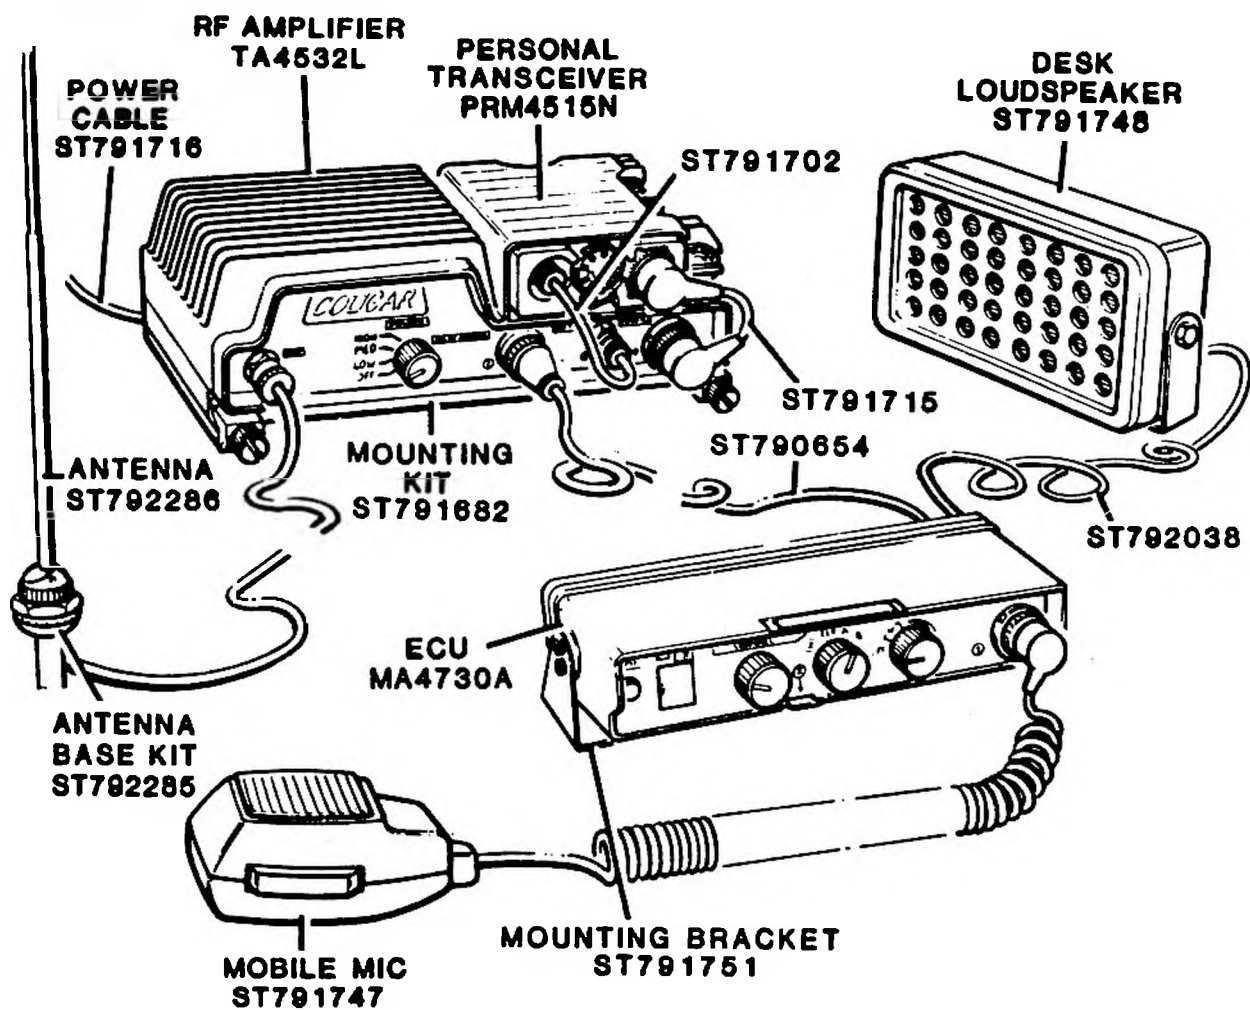

Fig 3 Vehicle station
3.3 Vehicle station (Fig 3). Similar to the Manpack but with brackets to fit into a vehicle (typically in the boot) and a remote controller designed for dashboard mounting.